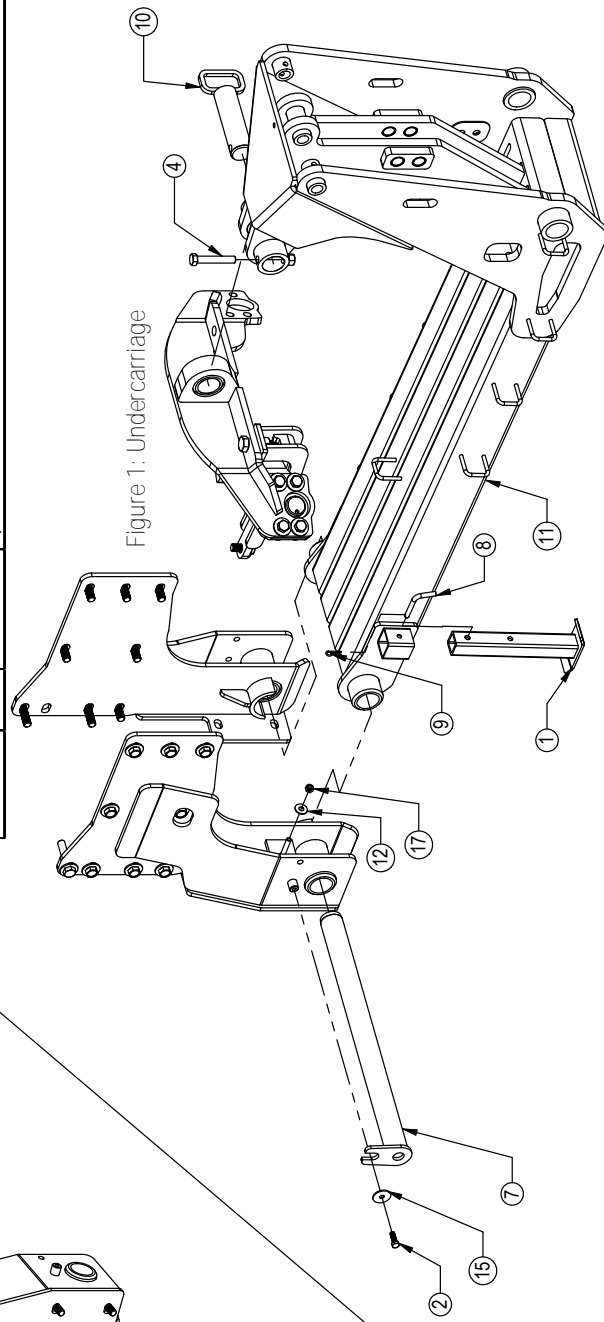

Figure 1: Undercarriage
**Refer to Figure 1 on Page 5 for the front bracket installation Steps #3-8.**
Refer to Figure 1 on Page 7 for the undercarriage installation Steps #1-6.